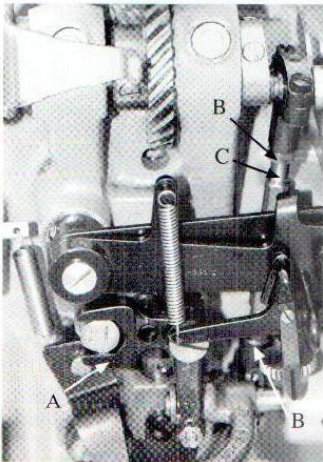

Fig.5
Turn pulley in operating direction until needle enters needle guide slot in presser foot on left side. There should be $.012$ inch clearance between left side of needle blade and presser foot needle guide slot. Lightly tap the needle vibrating crank adjusting lug (A, Fig. 5) to right or left to secure this adjustment. In the photograph the needle vibrating crank has been removed for clarity.
Turn pulley in operating direction until point of looper is directly over center of needle as needle is returning on its left stroke. The back of needle eye should now be 1/16 inch from looper point. If adjustment is required at this point, loosen the two locknuts(B, Fig.5) on ball joint connecting rod(C) and turn rod to secure this setting.